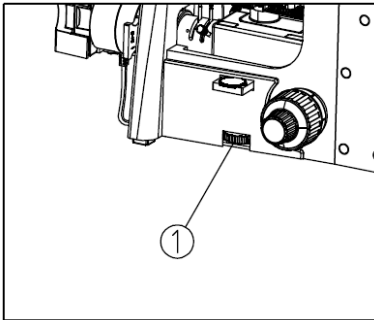

Fig.11
- (1) After connect the microscope with power supply, set main switch at “-“ position.
- (2) Turn the knob ① for brightness to suitable. Clockwise turning of the adjusting knob is to bright and counter to dark. (Fig 11)